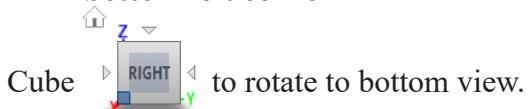

Fig. 38
Step 2. Switch Visible Style to **Shaded with visible Edges Only (Ctrl-6)**. To switch to Wireframe, click the Display Settings  pull-down in the Navigation Bar at the bottom of the canvas and select **Visual Style > Shaded with visible Edges Only**, Fig. 38.